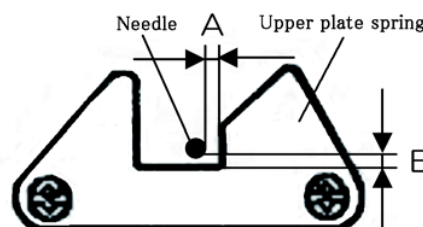

Fig.2
1. When the needle bar is brought to the lower dead point at the right side by rotating the handwheel, measure the clearance (A, B) between the needle and the upper plate spring. (Fig. 2)
B = 0.5 to 1.0 mm (Fig. 2)